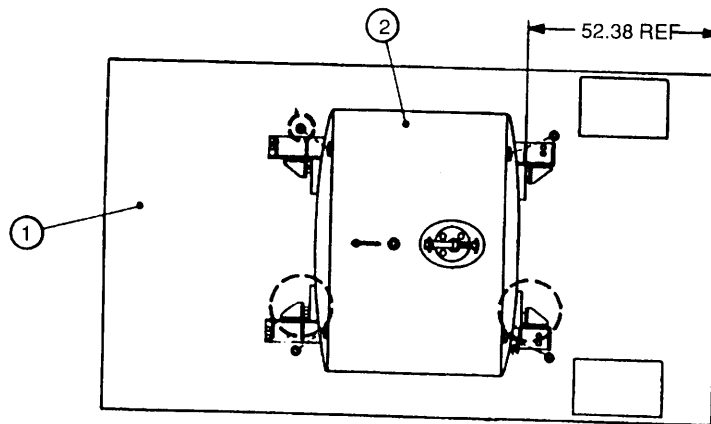

Figure 4-11. Tank Placement and Tiedown Locations.
- (6) Orient and position tank (2) on flatbed and move mounting angles inboard so the angles are flush against the sides of the tank skids. Keeping mounting angle parallel to trailer edge, as much as possible, retighten its hardware. Align tank snugly against the secured angle, moving the other mounting angle with it. See Figure 4-11.
- (12) With tank mounted, install tiedown assemblies (24), at locations shown in Figure 4-11, using two washers (22) and one nut (23). Apply 325-327 ft. -lbs of torque to nuts to secure tiedowns.
- (13) Extend turnbuckles on tiedowns, enough to attach hooks to shackles provided on tank. Attach, secure safety clips on hooks and draw turnbuckles, handtight only, to remove slack from tiedowns assemblies. Tighten jam nuts on turnbuckles to secure.